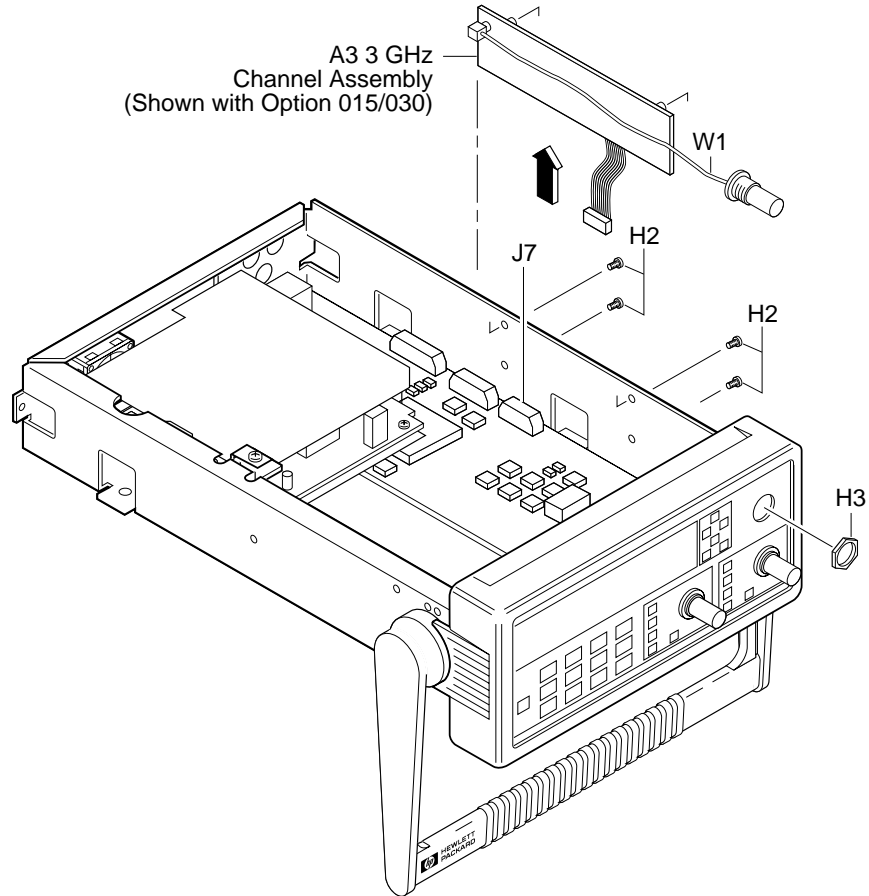

Figure 3-8. Optional Channel Input Assembly Removal
3 Pull W1, which is the optional channel assembly cable, out of the Channel 3 (or 2) opening in the front panel assembly as shown in Figure 3-8. For the Option 050 or 124, the connector is part of the Option assembly.
- 4** Disconnect flat-ribbon cable of the optional channel from connector **J7** of **A1 Motherboard Assembly** as shown in **Figure 3-8**.
- 5** Remove the four (two or three for **Option 050** or **124**) screws (**H2**) attaching the optional channel to the chassis as shown in **Figure 3-8**.